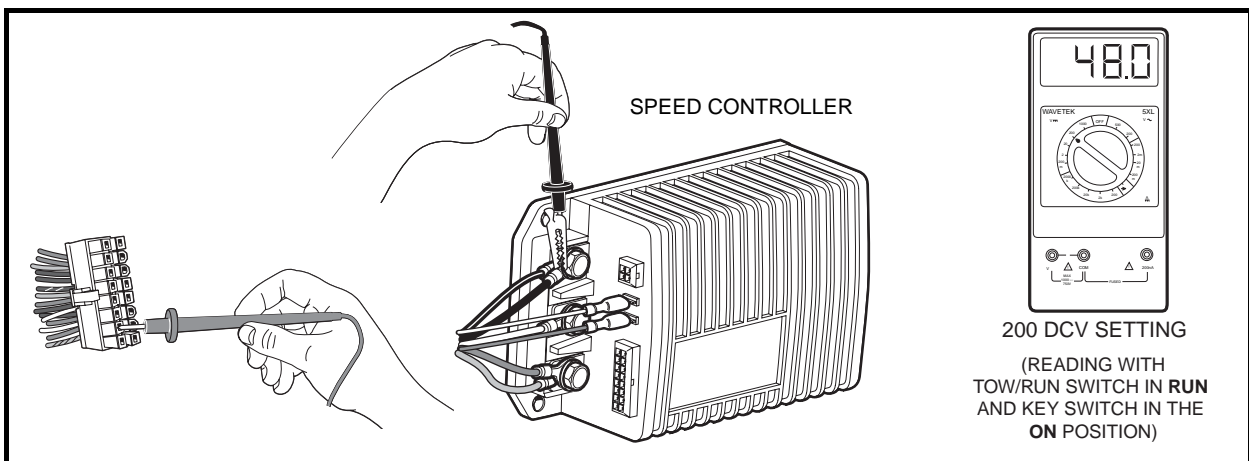

Figure 11-19 Pin 10 Test
4. Using a multimeter set for 200 volts DC, insert the red (+) probe of the multimeter into pin 10 (tan wire) of the 16-pin connector. **See following CAUTION.** Using an alligator clip, connect the black (–) probe to the B– terminal of the speed controller (**Figure 11-19, Page 11-33**).